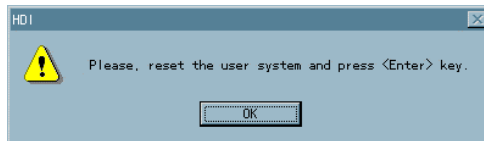

Figure 3.6 Reset Request Dialog
- A dialog (figure 3.6) is displayed on the PC screen; turn the SH7705SE reset switch (SW1) on, and after resetting the CPU, click the OK button, or press the Enter key.